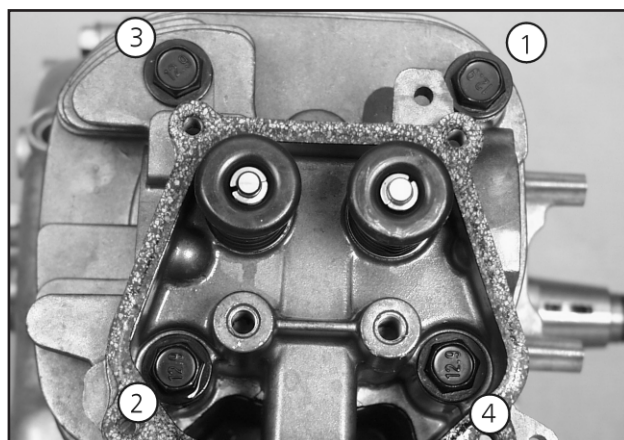

Figure 9.13 — Head Bolt Tightening Sequence
5. Install the cylinder head bolts and tighten them in the sequence shown in Figure 9.13.